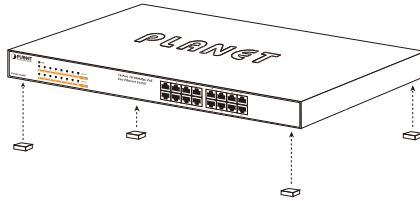

Figure 3-1: Attaching the Rubber Feet to the 802.3at PoE+ Ethernet Switch
Step1: Attach the rubber feet to the recessed areas on the bottom of the 802.3at PoE+ Ethernet Switch, as shown in Figure 3-1.